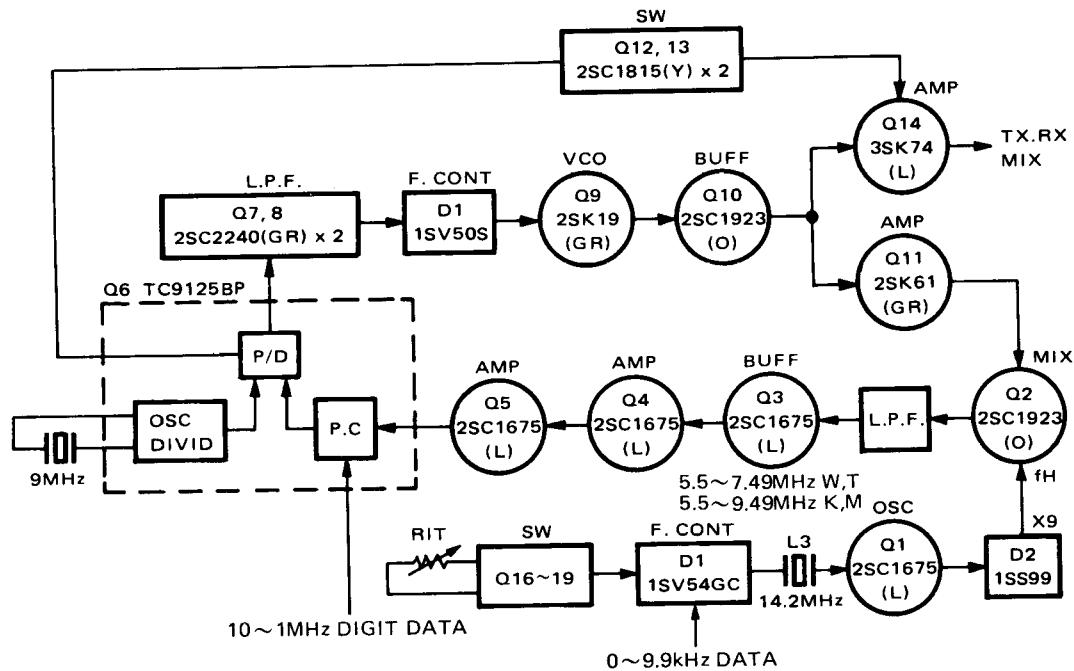

Fig. 3 PLL unit Block diagram
Fig. 3 shows the basic configuration of the PLL circuit. The signal generated by the VCO (Q9: 2SK19 (GR)), after passing through the buffer amplifiers Q10: 2SC1923(O) and Q11: 2SK61(GR), is mixed with the HET (heterodyne) signal by Q12: 2SC1923(O) where it is converted to a 5.5 to 9.49 MHz (K,M), 7.49 MHz (W,T) signal. This signal is amplified by Q3 – Q5: 2SC1675(L) and applied to Q6: TC9125BP. IC Q6 functions as a phase comparator, frequency-divider, and program counter. It compares the phase of the data (1 MHz, 100 kHz, 10 kHz) from the control unit with the phase of the 10 kHz reference signal obtained by dividing down the 9 MHz crystal oscillator. Any error from the reference is output from Q6 as a correction voltage for the VCO. This voltage, having passed the active low-pass filters Q7 and Q8, is applied to the VCO varactor diode to control the VCO Q9.